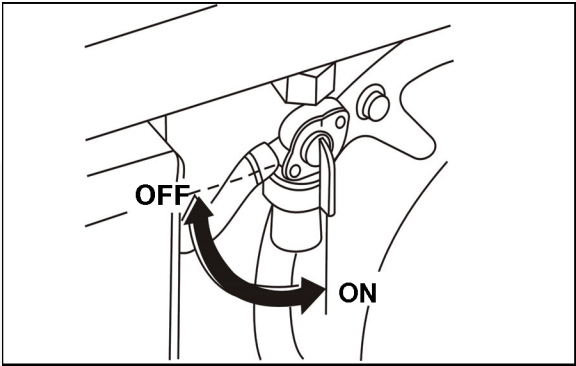

FIGURE 5. FUEL VALVE
1. Open the fuel valve (see Figure 5).